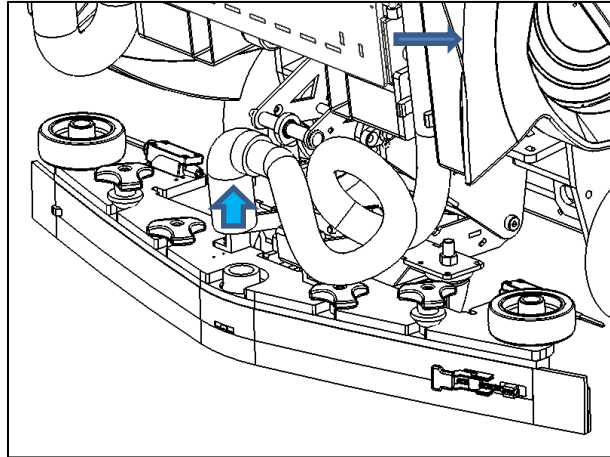

Fig. 1
2. Take off the hose (Fig.1), keeping a cloth handy in case of dirty water spillage.